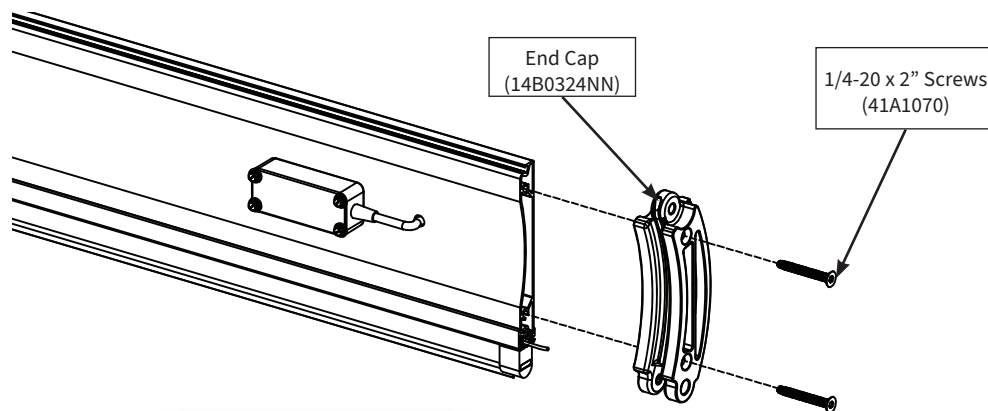

Figure 6: Remove End Cap
- 2 Remove (2) 1/4-20 X 2.00" screws (41A1070) holding the end cap link closest to the wireless transmitter (14B0324NN) and remove the end cap link (Figure 6). Save the screws for re-install. Note that this end cap has a channel cut into it that the wires from the reversing edge fit into. The wires of the new reversing edge will also have to fit into that channel.